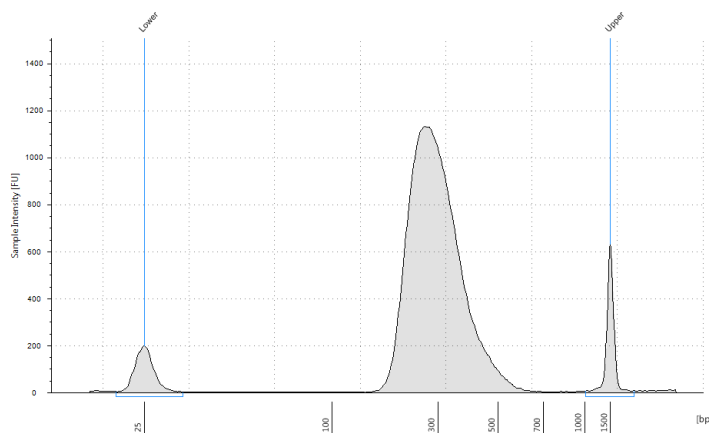

Figure 9 Analysis of amplified library DNA using a D1000 ScreenTape.
- 5 Verify that the electropherogram shows the peak of DNA fragment size positioned between 225 to 275 bp. A sample electropherogram is shown in **Figure 9**.